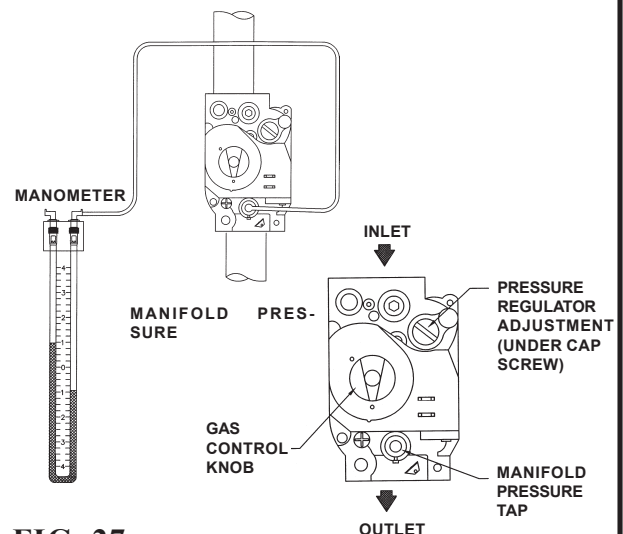

FIG. 27
11. Remove the 1/8" hex plug, located on "outlet" side of the gas valve and install a fitting suitable to connect to a manometer or magnahelic gauge. See Fig. 27. Minimum range of scale should be up to 5" w.c. for natural gas and 10" w.c. for propane gas.